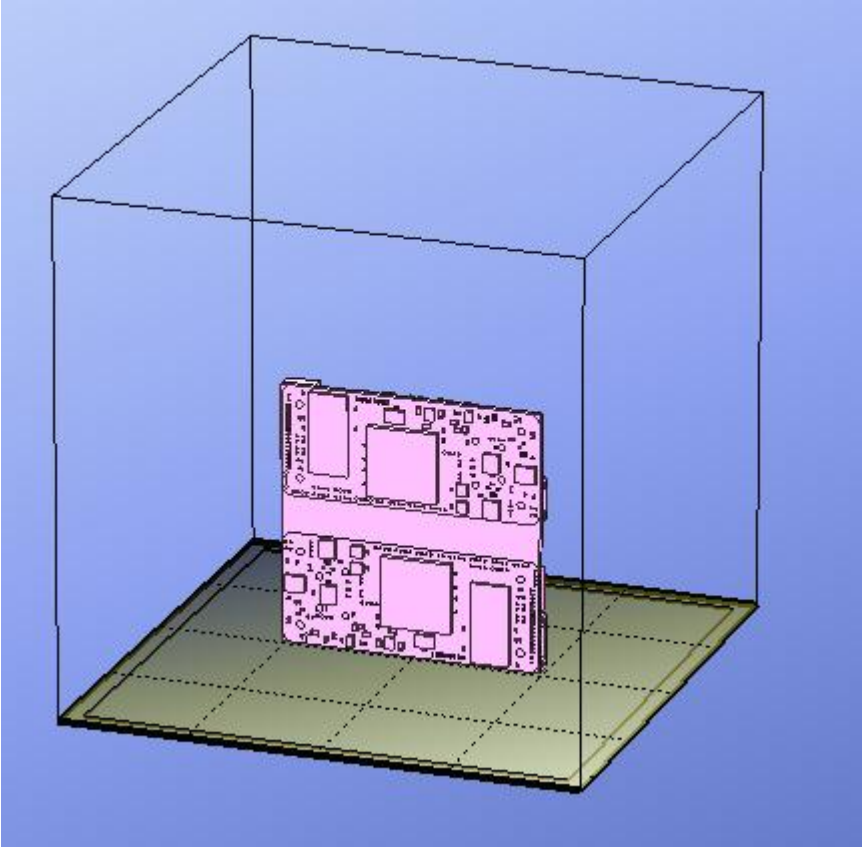

Figure 8: STL File Loaded in UP! Software
17. Depending on the type of part you have, you may want to print it in a different orientation than what the software automatically provides. For example, in Figure 8, we have a tall, thin piece. You want to print this piece in the orientation shown as the thin features will be highlighted and be smooth. If instead you have a small, thick piece, you may want to print that in a horizontal orientation so that it is laying on the platform. **NOTE:** If you choose a part with a flat area more than 70 x 70 mm to print horizontally on the platform, your part may warp at the edges and thus damage your part. If you have any questions, please consult SpaceShop staff member for assistance.